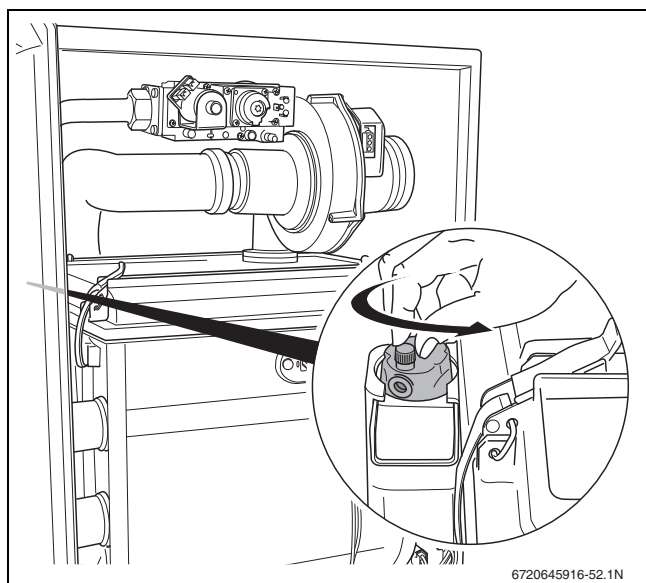

Fig. 56 Opening the automatic air vent
- ▶ Loosen the cap of the automatic air vent (→ fig. 56) by turning ¼ rotation counterclockwise.